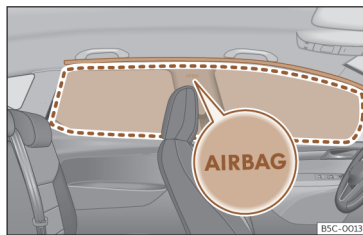

Fig. 34 Location of head-protection airbags.
Head-protection airbags are on both sides of the passenger compartment, above the doors >>> Fig. 34 and their location is indicated with the word "AIRBAG".
The framed area is covered by the head-protection airbag when it is deployed (deployment area) >>> Fig. 34. Therefore, objects should never be placed or mounted in this area >>> .
- Ensure that children are correctly seated in their seats and that their heads are not in the deployment zone of the head airbags >>> Fig. 34, as deploying airbags could hit them and cause serious injury.